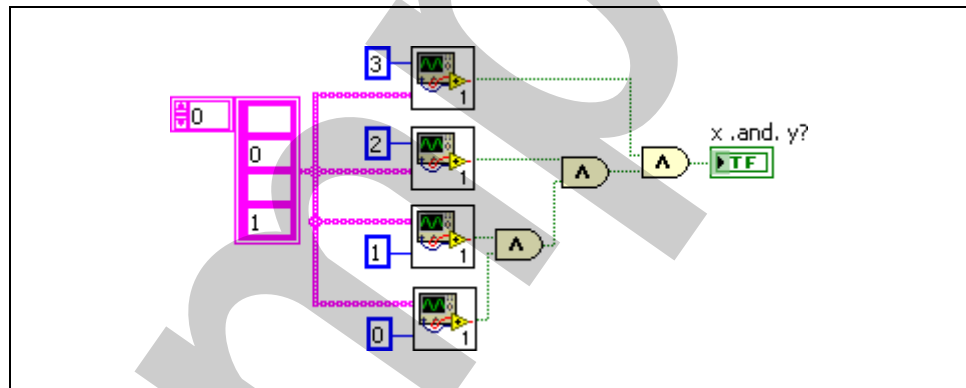

Figure 2-5. Duplicate Code VI with SubVIs
- Reconnect wires as shown in Figure 2-5.